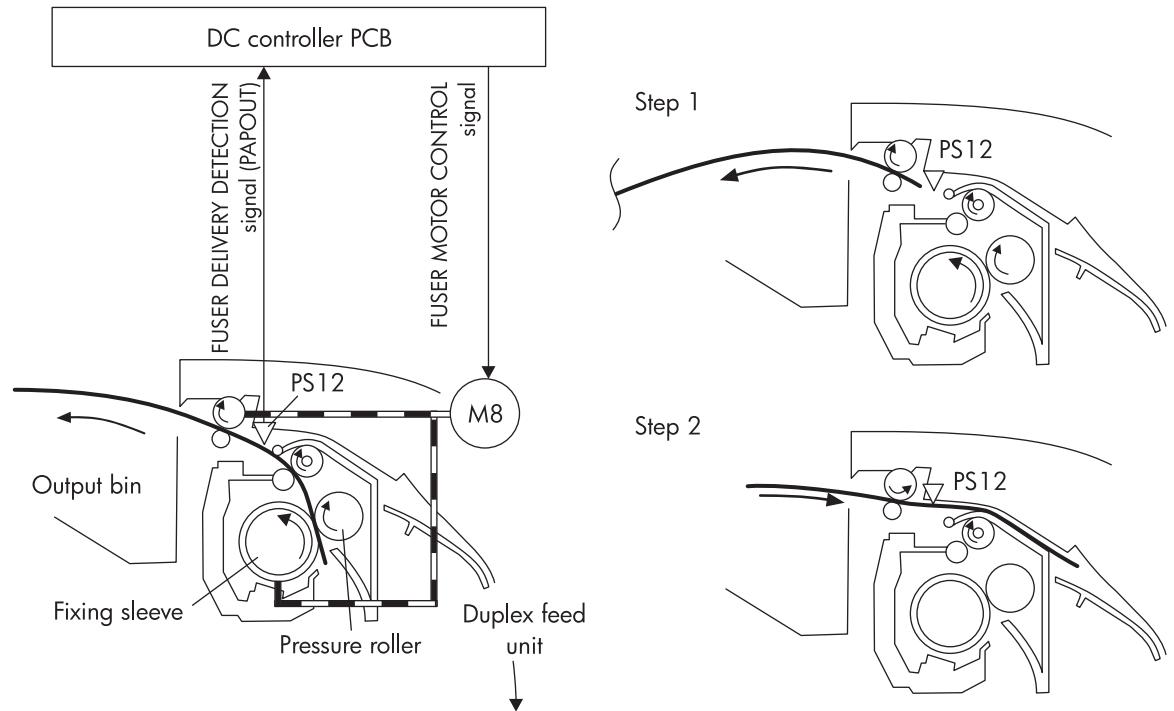

Figure 5-38. Duplex switch back
2. The fuser motor (M8) rotates counterclockwise for a specified length of time after the paper reaches the fuser delivery sensor. The fuser delivery roller reverses direction and feeds the paper into the duplex feed unit. Figure 5-38. Duplex switch back illustrates this "switch back" operation.